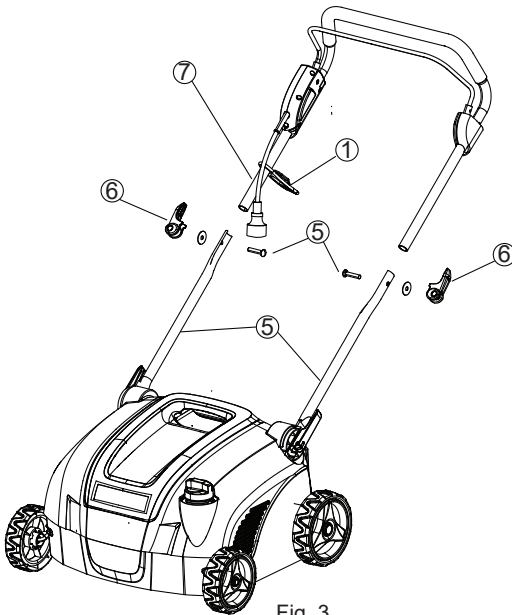

Fig. 3
1. Attach the cable hock ① to the upper handle ⑦ (See Fig. 3).
3. Insert the two locking bolts ⑤ from inside through the hole in the upper handle ⑦ and secure to the lower handle ⑤ with two wing nuts ⑥ (See Fig. 3).